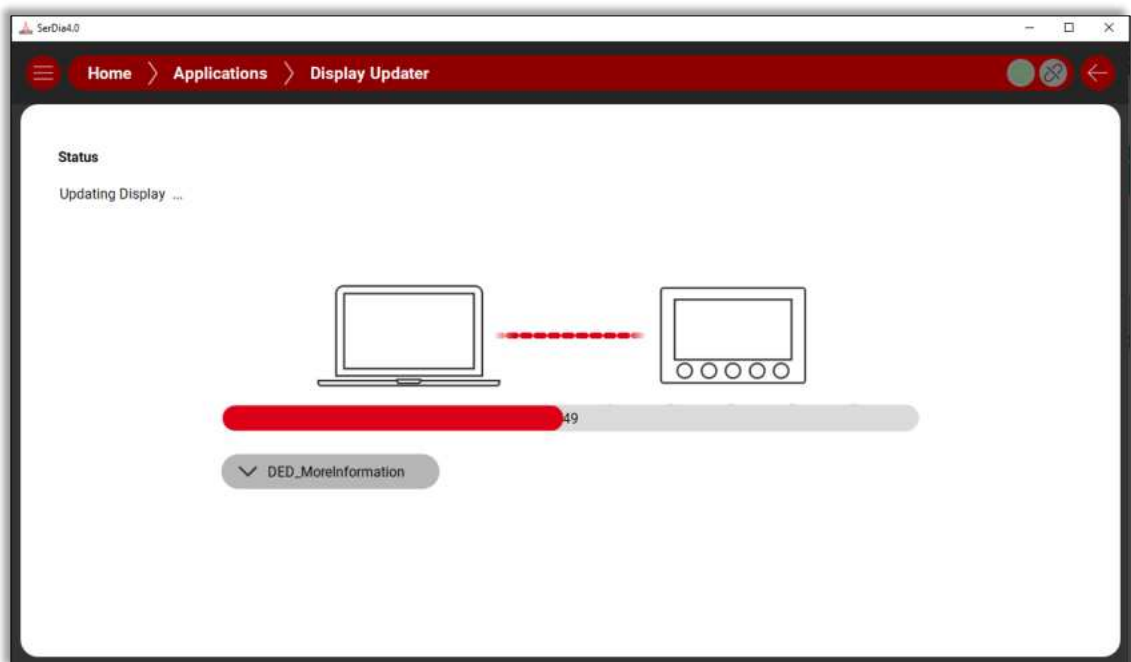

Fig. 93: Update process
9. After selecting one of the update packages, you will be redirected to a summary page. It is essential to follow the instructions and notes described here. Use the "back" button to navigate back to the update selection. The "Start update" button starts the update process automatically (Fig. 93). The display switches off for the duration of this process and only shows a static image.